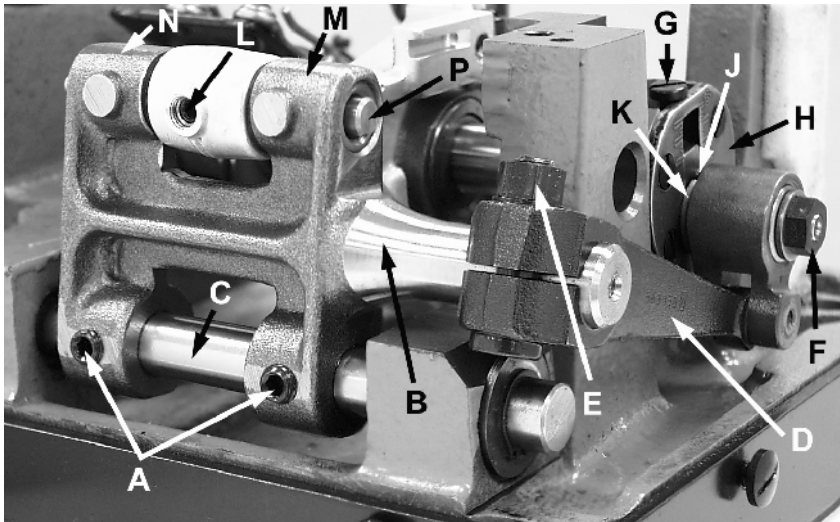

Fig 11
Right to left adjustment can be made by loosening screws (A, Fig. 11) and slightly move feed rocker (B) on feed rocker shaft (C) as required, then retighten screws. Check to ensure that feed rocker arm (D) does not bind after adjustment.
Forward or rearward centering of feed dog can be accomplished by loosening nut (E, Fig. 11), move feed rocker (B) as required and retighten nut.
Set the stitch to required length. This is accomplished by loosening lock nut (F, Fig. 11) 1/2 turn, (it has a left hand thread) on the end of the stitch regulating stud and turning stitch adjusting screw (G) located under the left end of the cloth plate in the head of the mainshaft (H), which is marked with "L" and "S". Turning the screw in a clockwise direction shortens the stitch (moves stitch regulating stud toward the "S") and turning it in a counterclockwise direction lengthens the stitch (moves stitch regulator stud toward the "L"). Retighten the lock nut securely. To prevent destructive damage to the feed drive bearing, key screw (J) must engage the "U" shaped key slot in ferrule (K).
The feed rocker assembly may require lubrication and repair after years of operation. This can be accomplished as follows: Loosen nut (E, Fig. 11) and remove nut (F). Remove feed rocker arm (D) from machine by rocking slightly. Loosen screws (A) and remove stop collar on right end of shaft (C). Shaft can now be withdrawn. Loosen Allen screw (L) and remove shaft (P). Now repack bearings.
When packing bearings, parts must be clean and grease should be applied directly from the tube to avoid contamination. Tube of grease can be ordered under part No. 28604 P. Greased bearings are located at (N, M, Fig. 11). If grease sealed bearings are replaced, they should be pressed in flush with the casting. To assemble, start tapered end of shafts first, twisting slightly when entering the grease seals to prevent damage. Check for proper adjustment of feed dog as described under the "Feed Dog Settings". Also check to see that there is no binding at any point.